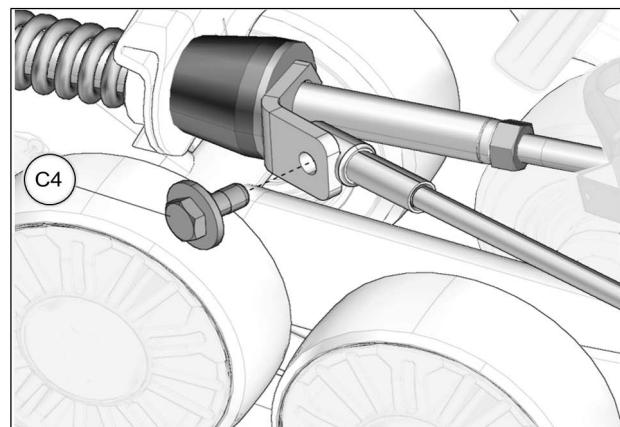

Fig. 28
19. Reverse steering wheel a little to be able to bolt support plate and cable together. Tighten provided bolt (C4) to 35 Nm [24 lb·ft]. See Fig. 28. Repeat steps on right side.